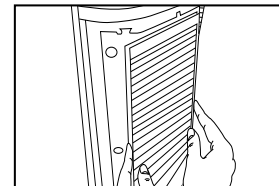

Fig. 3
3. The HEPA filters will be resting inside the unit. Make sure that the filters are firmly seated inside of the unit. Fig. 3